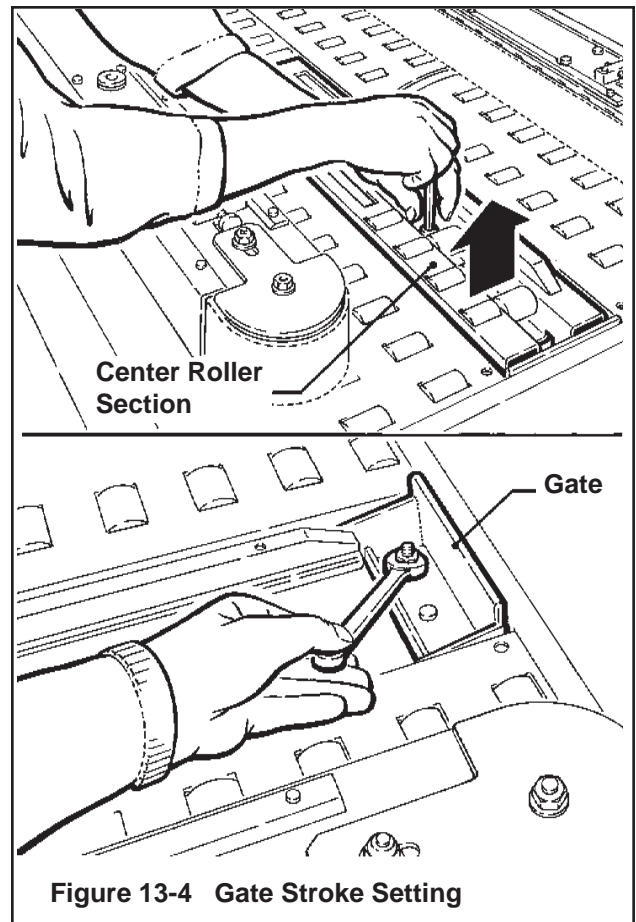

Figure 13-4 Gate Stroke Setting
13.6 Gate Stroke Setting (Figure 13-4)